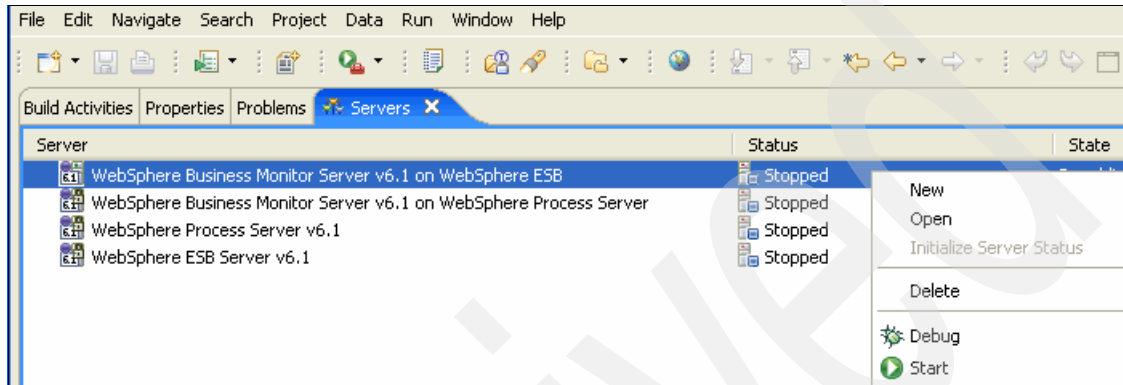

Figure 6-23 Starting the server
1. Click the **Server** tab (Figure 6-23). Right-click **WebSphere Business Monitor Server v6.1 on WebSphere ESB** and select **Start** to start the server.